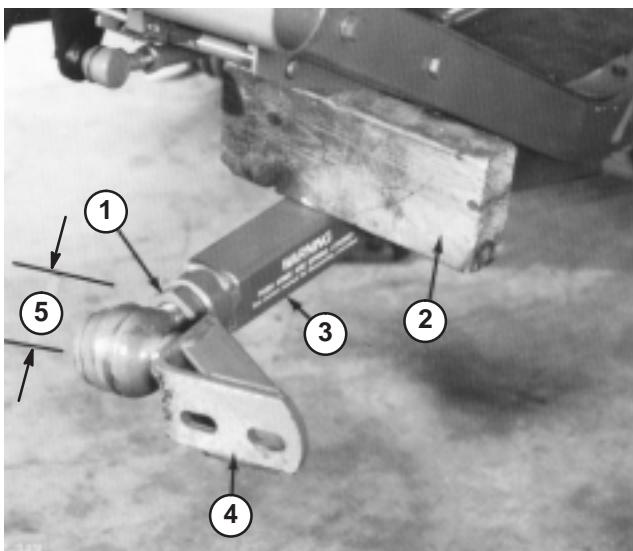

Figure 18
3. Have a helper push down on the left push arm. Then insert a 2 x 4 in. (51 x 102 mm) block of wood between the frame and top of the push arm (Fig. 18). Screw ball joint into left hand push arm until center of ball joint is 2-3/8 in. (60 mm) away from front of push arm (Fig. 18). Do not tighten jam nut.